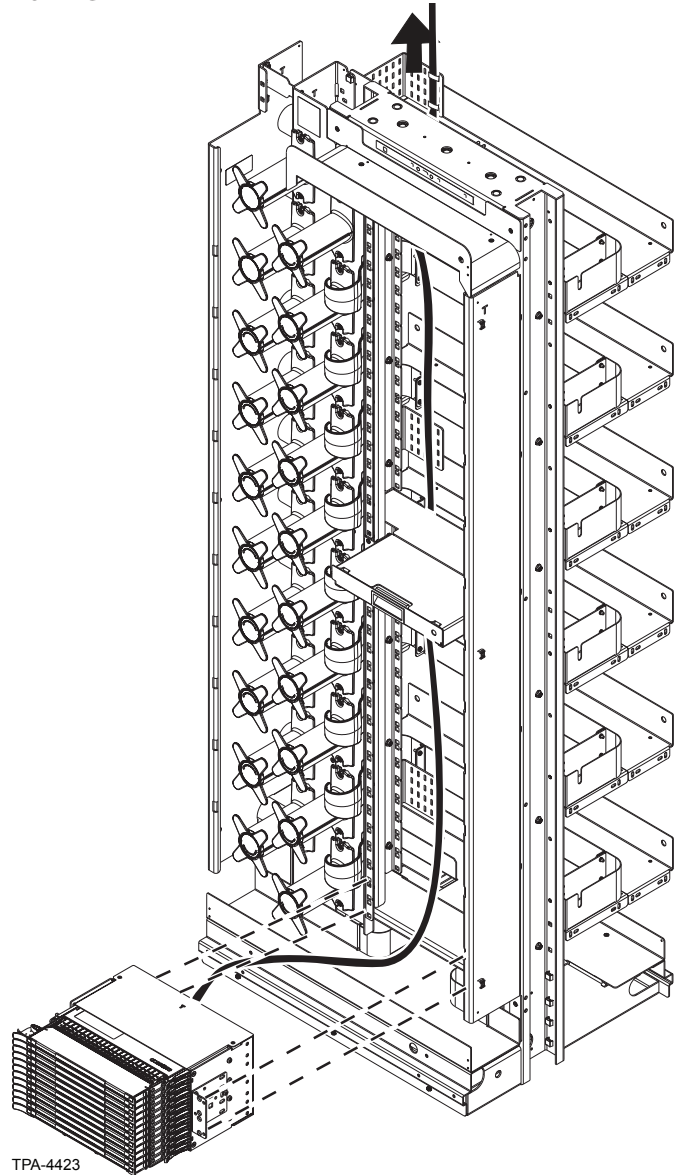

Figure 3
- Step 2:** Feed the cable up through the opening to the top of the frame (Figure 3).
- Step 3:** Beginning at the bottom of the frame, install the first housing (Figure 3).